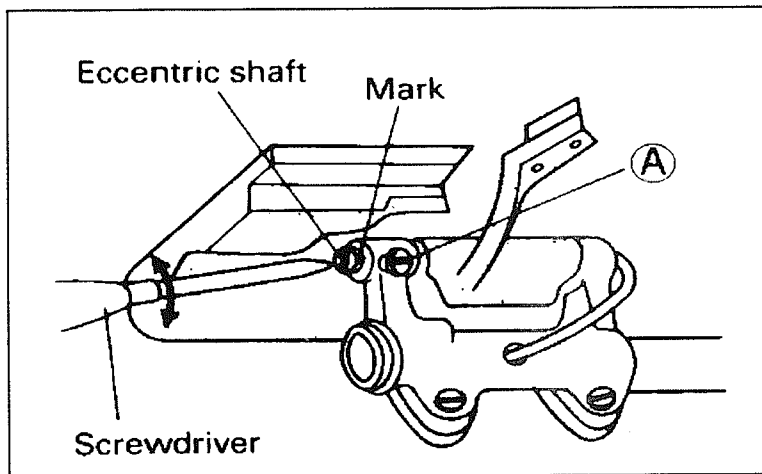

Fig. 25
19. Adjustment of feed dog inclination (Fig.25,26):